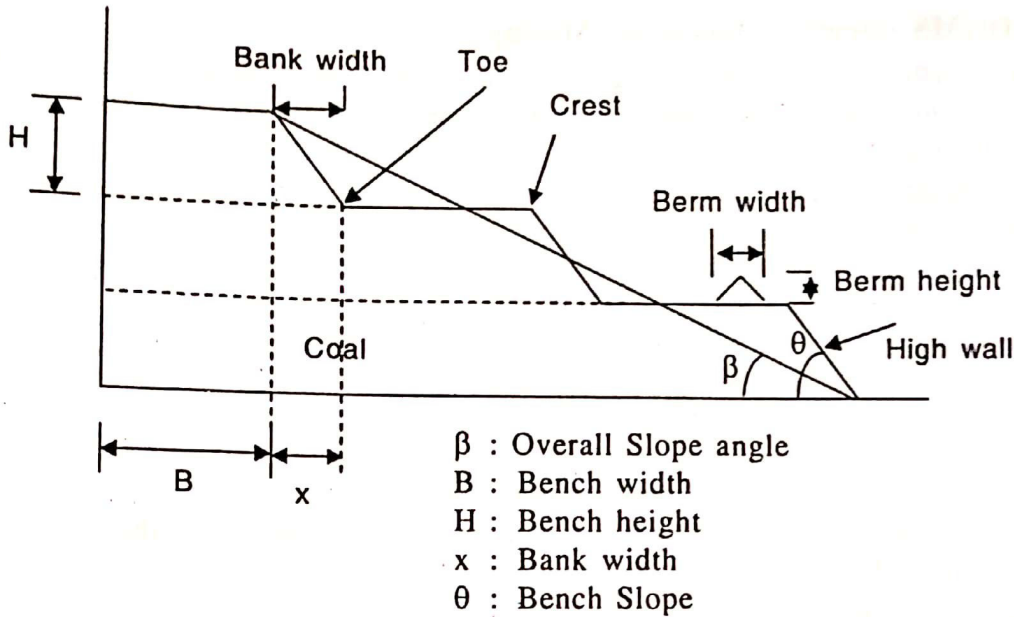
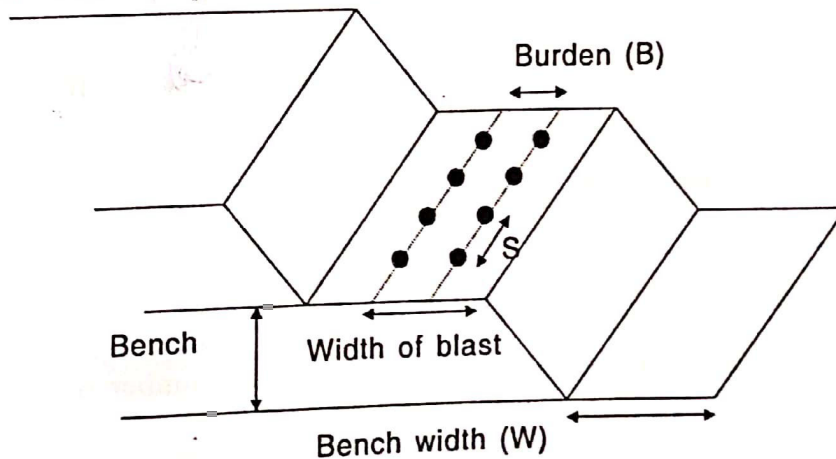

Figure 1.8 : Working Bench of Opencast Mine
Figure 1.9 : Working Bench of Opencast Mine
1.3.5 Parameters of the Working Bench : In a working bench of opencast mine, the basic parameters are shown in Figure 1.8 and Figure 1.9